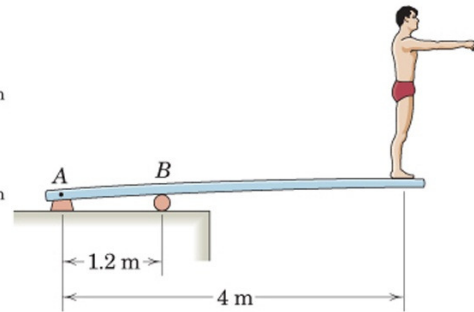

Fig. 2
Q. No. 2 Draw the shear and moment diagrams for the diving board shown in Fig. 2, which supports the 80-kg man poised to dive. Specify the bending moment with the maximum magnitude.